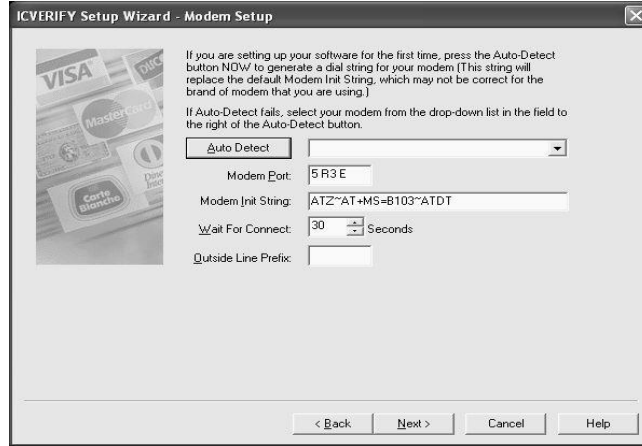

Figure 4.0.3-1: Modem Setup
- 43. Stop once you reach the “Modem Setup” screen (see **Figure 4.0.3-1** below).